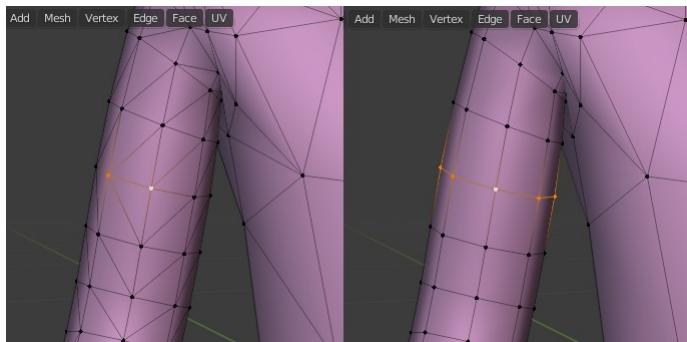

Figure 7-3 Loop Select and Loop Cut only work with quads
3. Switch back to Object mode, select the Person01 object then change to Edit mode. You will see that the body and arms are built from triangles rather than quads. This is a by-product of using the dyntopo option while sculpting. Deselect all the vertices with **ALT-A** then try to select an edge loop running round an arm with **ALT-LMB** on a circumferential edge. See Figure 7-3 You will find that you only select a single edge.
4. Blender can try to convert triangles to quads for you. Select all the mesh with **A** then click **Face ▶ Tris to Quads**, deselect all the vertices then retry selecting an edge loop round an arm. This time you will find it works, but note that tris to quads didn't convert all of the quads as you can see on the right of Figure 7-3.